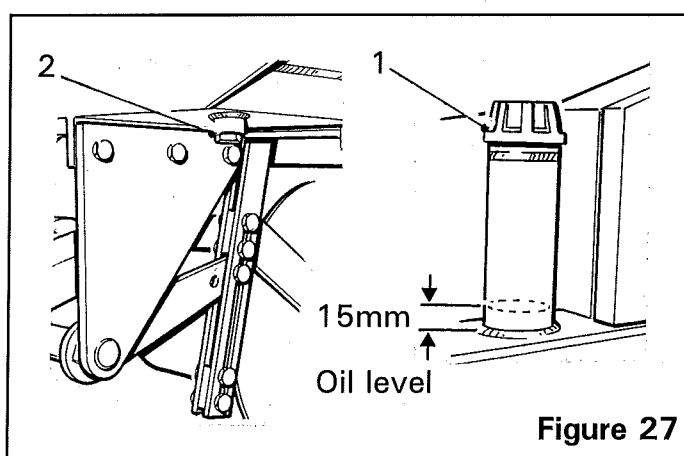

Figure 27
To extend the life of the cleaner unit hydraulic system, the hydraulic oil should be carefully monitored. The hot oil level should be kept at approximately 15mm above the bottom of the chassis mounted filler neck (*item 1, figure 27*). Maintain the filler level by topping up or refilling with Esso Nuto 46 Hydraulic Oil. The reservoir holds approximately 180 litres (40 gallons).
The oil reservoir magnetic plug (*item 2, figure 27*) should be removed and cleaned annually. This plug is also used to drain the reservoir, so if the oil is not being changed a temporary 3/4" BSP plug should be used to seal the tank and minimise oil loss.